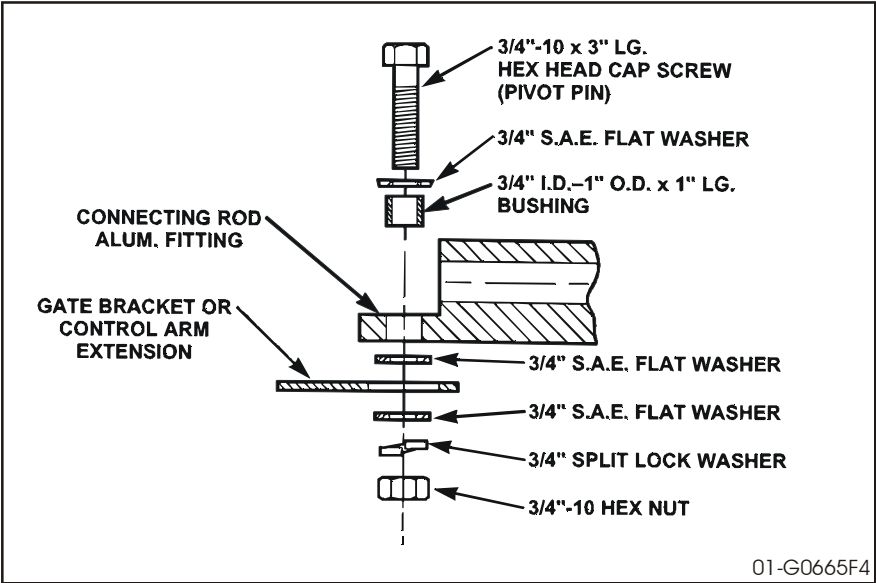

Figure 9
- 3 Assemble the (2) pipe holders, one to the gate bracket and one to the control arm extension, using bushings, 3/4 -10 x 3" bolts and 3/4" nuts, flatwashers and lockwashers as shown in Figure 9.